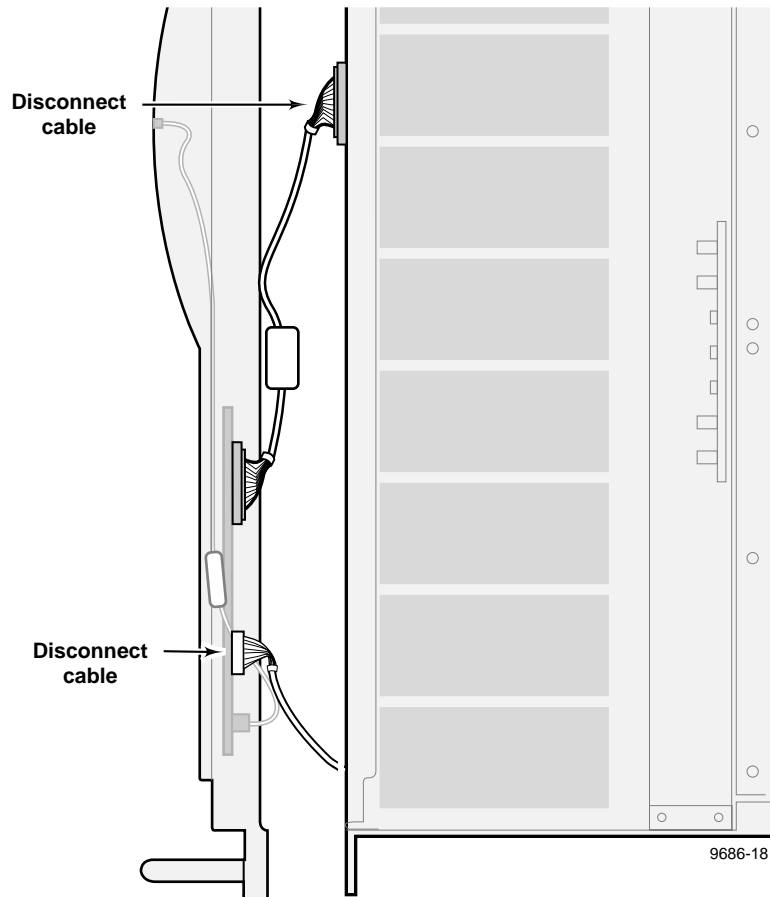

Figure 14. Disconnecting the front panel cables
2. Disconnect the LED cable from the top left of the chassis, and the On/Standby cable from the bottom right of the front panel as shown in Figure 14.